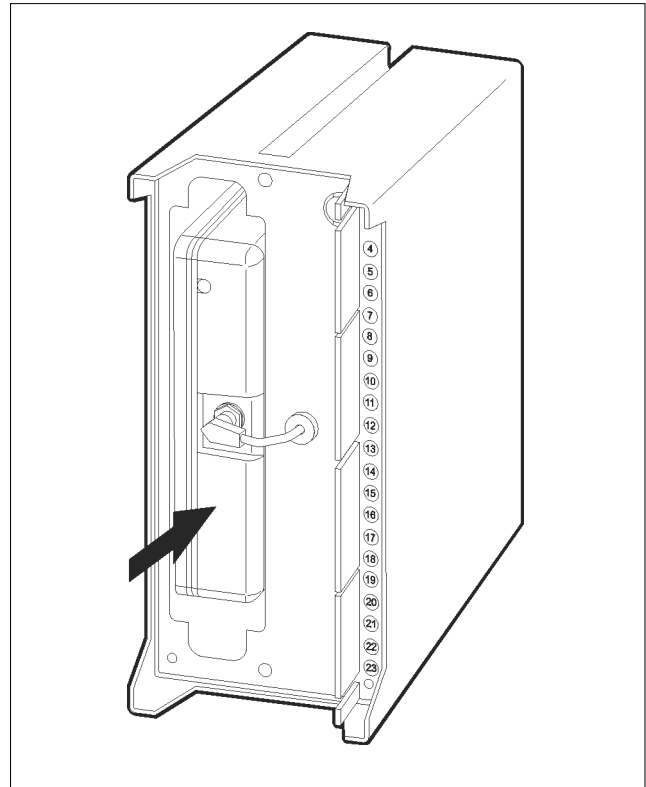

FIG. 3 Installing a plug-in flame current amplifier
- 1 Plug the selected amplifier into the back of the R4348B (see fig. 3).